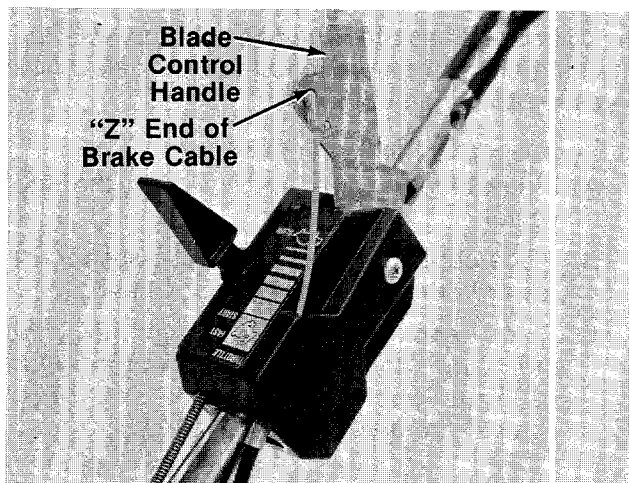

FIGURE 7.
8. Snap the end of the cable into the throttle control housing. Hook the "Z" end of the brake cable into blade control handle. See figure 7.